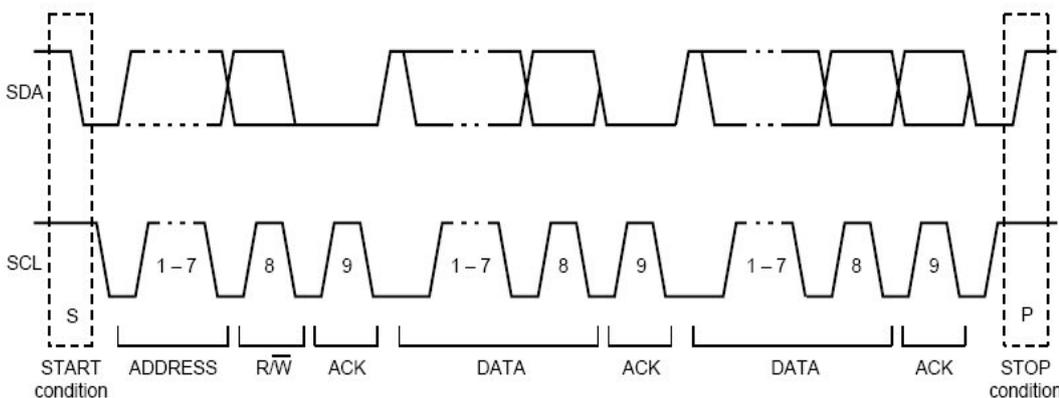

Figure 5: I2C Interface protocol definition
The I2C interface definition has special bus signal conditions. Figure 5 shows start (S), stop (P) and binary data conditions.